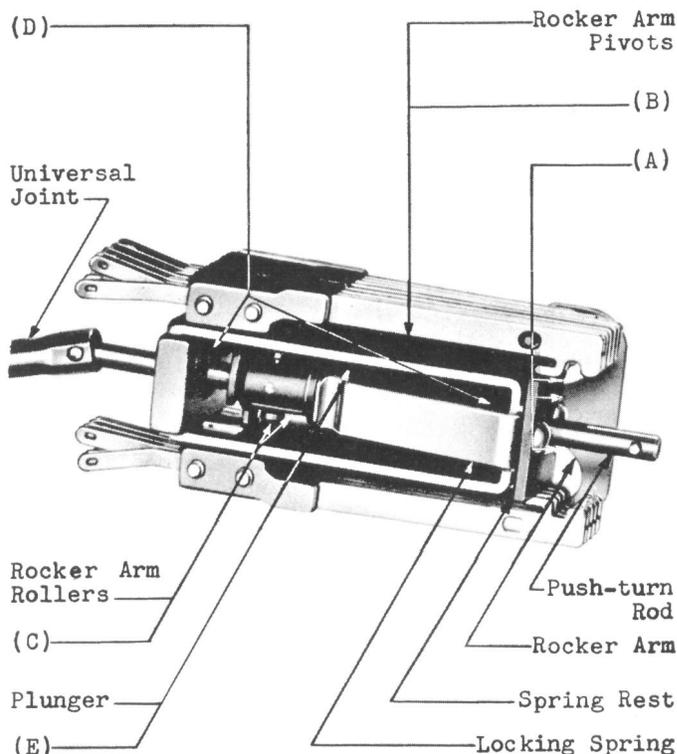

Fig. 3 - No. 580A Key - Side View
2.07 Rocker Arm Clearance - Fig. 3 (A):
(a) Rocker Arm and Rocker Arm Rollers - Figs. 3(B) and 3(C): The rocker arm and rocker arm rollers shall move-freely on their pivots.
Fig. 3 (D) and 3 (E): The push-turn rod shall slide and rotate freely in its bearings, and the plunger shall rotate freely on the push-turn rod with the pressure of the locking spring removed. Gauge by eye and feel.